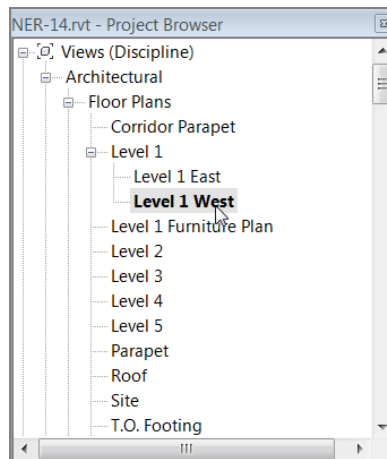

FIGURE 13.2: Creating the two views dependent on Level 1
4. Select Duplicate View > Duplicate As A Dependent. You now have two views nested under Level 1 (see Figure 13.2).
5. Right-click Dependent (2) on the Level 1 dependent view.
7. Rename the other dependent view **Level 1 West** (see Figure 13.2).